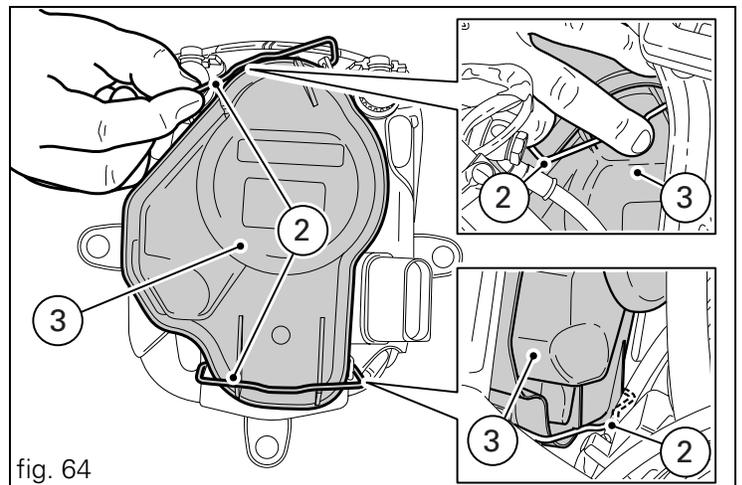

fig. 64
To access the headlight bulbs, release the top and bottom springs (2) under the instrument panel at the side of the fixed headlight fairing (fig. 64), and open the shell (3).